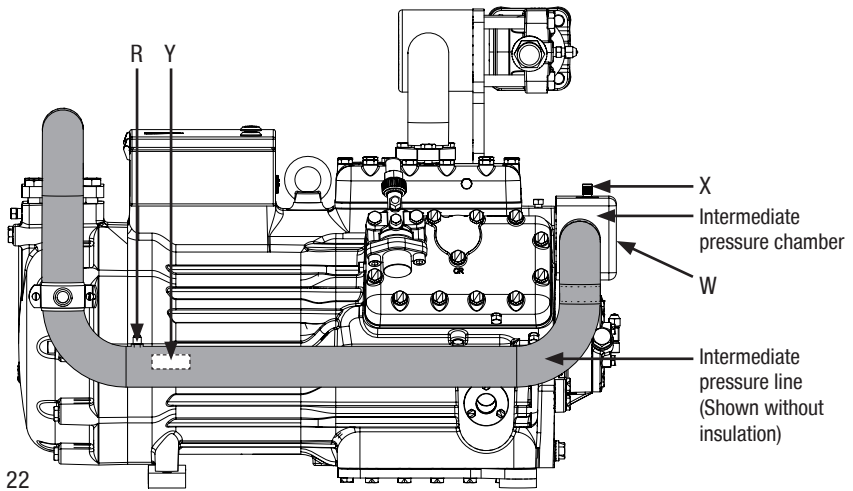

Fig. 22
**The intermediate pressure line and intermediate pressure chamber are fully insulated at the factory. To mount the expansion valve, cut the insulation as shown in the marked area in Fig. 22, page 18. Correct sensor placement is marked by an unpainted area on the pipe.**